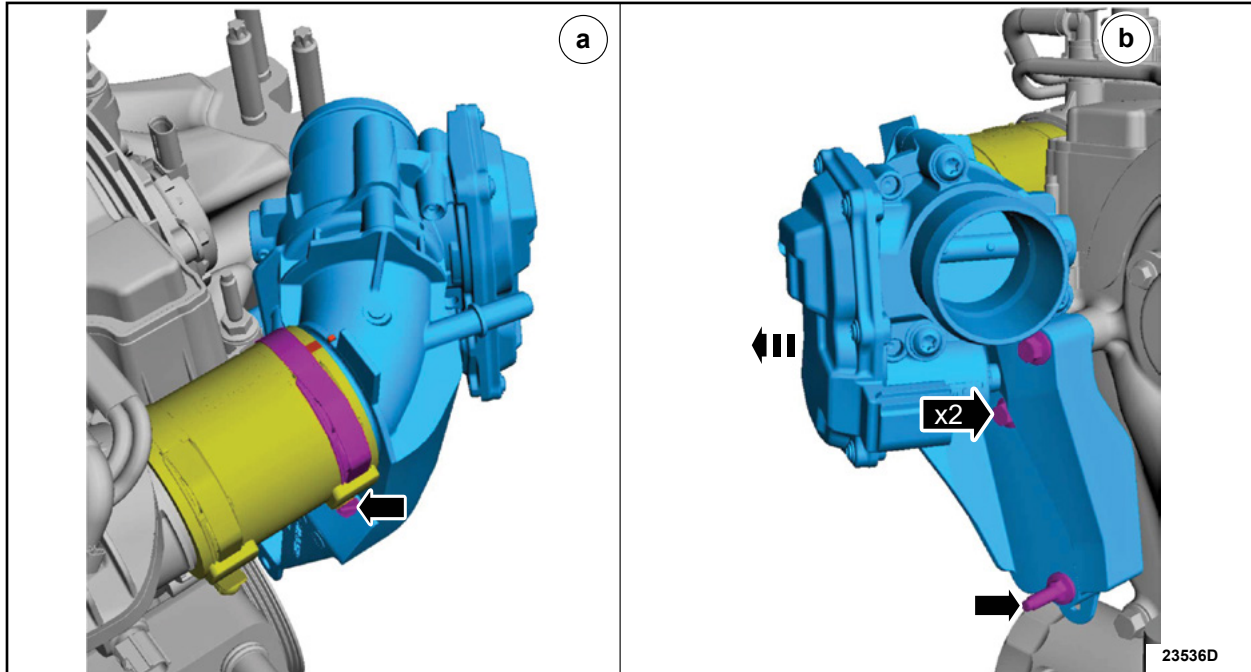

FIGURE 4
10. Remove the throttle body/bracket assembly. See Figure 4.